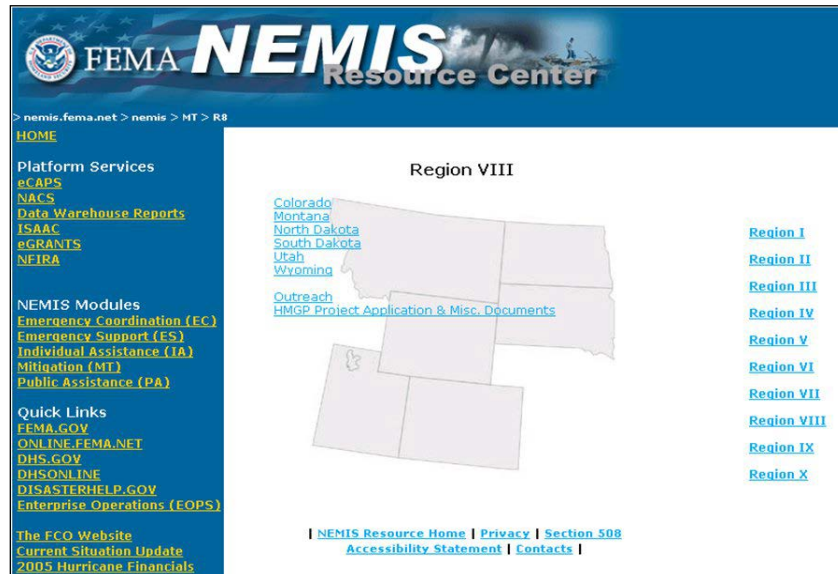

Figure 2-3: Region VIII Mitigation Page
3. On the right side, click the region whose documents you wish to view. The page for that region is displayed with a map and a list of links to the Recipients in that region (Figure 2-3).